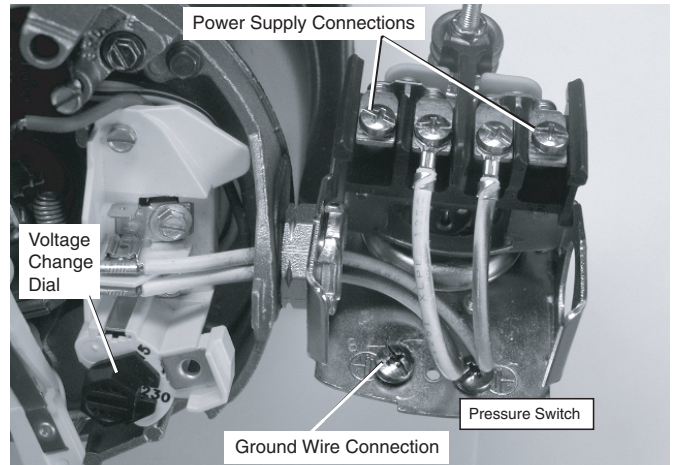

Figure 11: Voltage set to 230 volts, Dial Type
3. Attach the incoming power leads to the two outer screws on the pressure switch as shown in Figure 11.
4. Attach the ground wire to the grounding connections as shown in Figure 11.